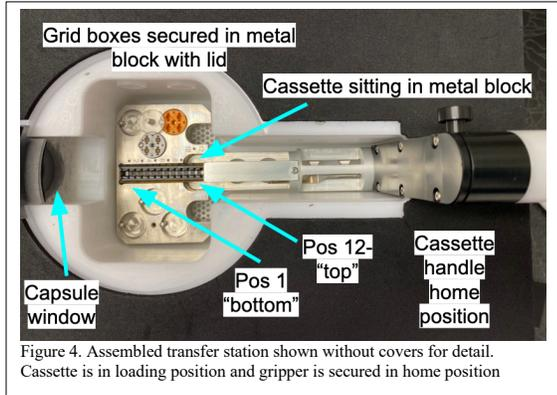

Figure 4. Assembled transfer station shown without covers for detail. Cassette is in loading position and gripper is secured in home position
- 4.4.3. Place cassette in the loading position of the metal block oriented as shown in figure 4.
- 4.5.5.5. Place the gripper in the home position (fig 4). The metal block has two support pins that match the underside of the gripper. Failure to place gripper on these pins will result in the cold end popping up, out of the LN2 vapor (fig 5d).